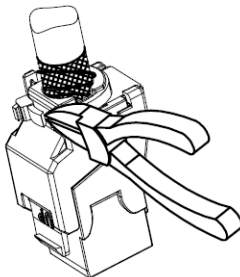

Fig. 15
- 1) Cut off the cable tie (Fig. 15)